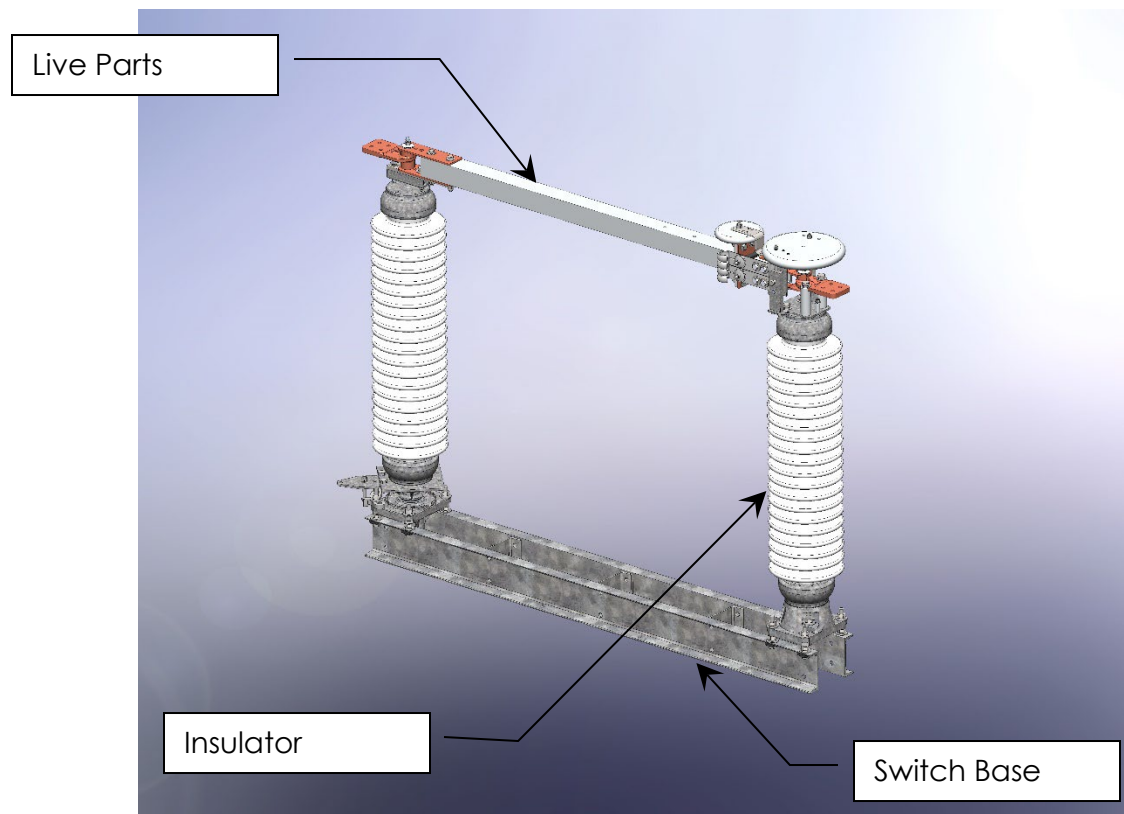

Figure 3: Switch as received
- 1) Remove any shipping braces or straps from the switch. Leave the shipping stands attached to the switch base to facilitate assembly. See Figure 3.